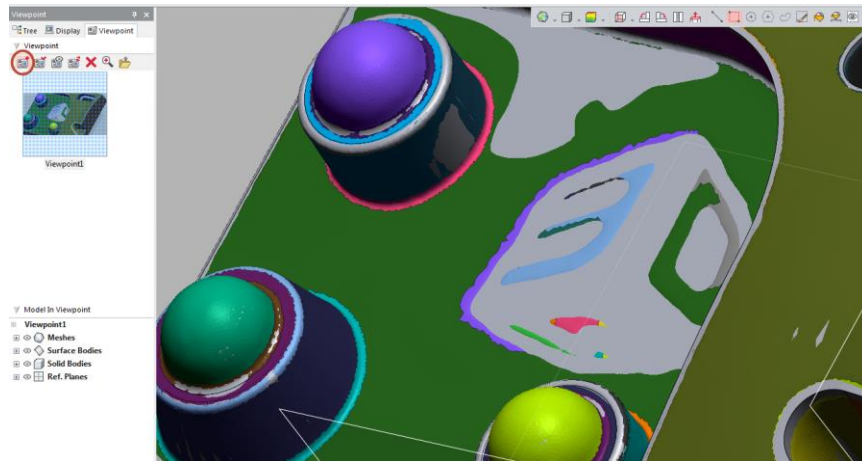

Figure 30
- **Rotate, Zoom** and **Turn on/off Visibility** of the model to get a view approximately like **Figure 30**.